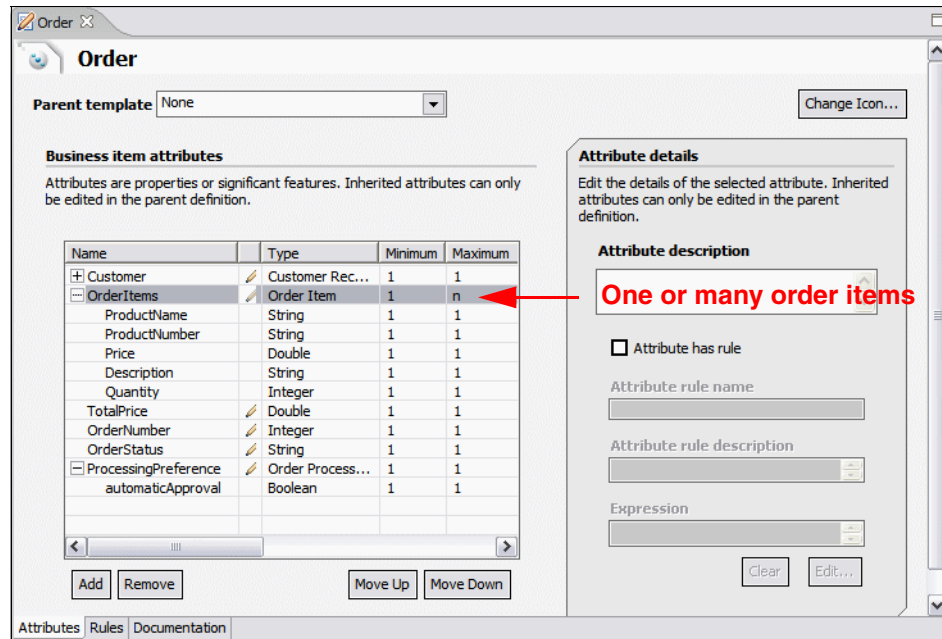

Figure 5-8 Business item: Order
- ▶ **Order**—The Order is the main business item that flows through the whole process (Figure 5-8). An order consists of an OrderNumber, an OrderStatus, the TotalPrice of the order, a Customer with all its information, the OrderItems (which products), and a processing field (automaticApproval coming from **Order Processing Data**).